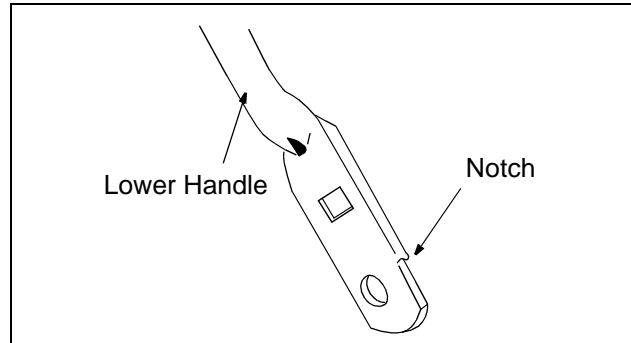

Figure 8
- Turn lower handle around so the notch on the bottom of the lower handle is facing forward. See Figure 8. Reassemble, placing the bottom holes in the handle over the weld pins in the handle mounting bracket.